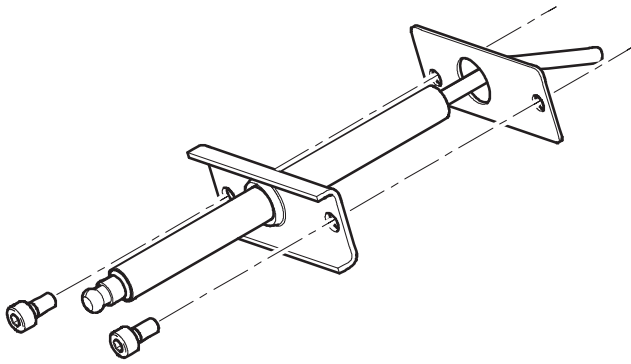

Figure 28: Ionization Electrode (Flame Rod)
- d. Install igniter as shown in Figure 28.